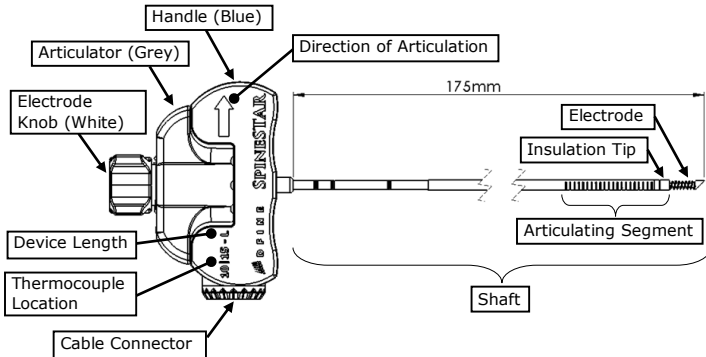

Figure 1: SpineSTAR Ablation Instrument
Figure 1: SpineSTAR (SS) Ablation Instrument has a handle that contains an Articulator (grey color) that curls the Articulating Segment in the direction of the Indicator (white arrow) and Electrode Knob (white color), which extends the Electrode from the distal end of the Articulating Segment.